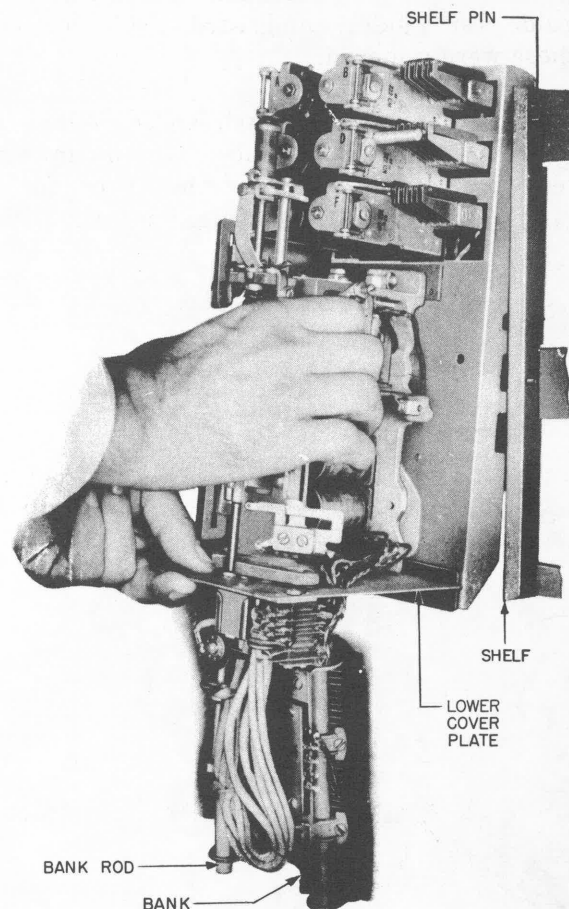

Fig. 4 – Method of Removing Switch From Frame
3.09 Place the left hand under the lower cover plate of the switch and grasp the switch firmly with the right hand as shown in Fig. 4. The thumb should rest on the release armature bracket on the left of the switch and the first three fingers should rest on the release armature on the right. Then, while pressing the switch inward, lift is upward until the shelf pins are opposite the slot openings. Hold the switch in this position with the right hand and, at the same time, steady the bank with the left hand and exert a slight pressure toward the shelf so as to prevent the wipers from catching on the bank contacts. When clearance is assured, re-grasp the lower cover plate with the left hand and tilt the lower portion of the switch forward to avoid damage to the wipers. Then draw the switch forward free of the shelf.